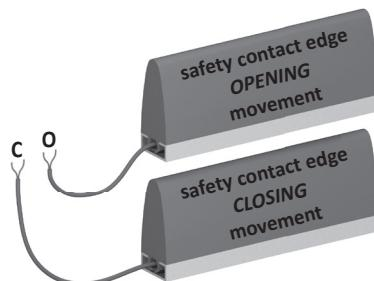

Figure 1: Connection at the coil core
6.6 Raccordement des barres palpeuses au noyau de bobine SPK 54 (figure 1)